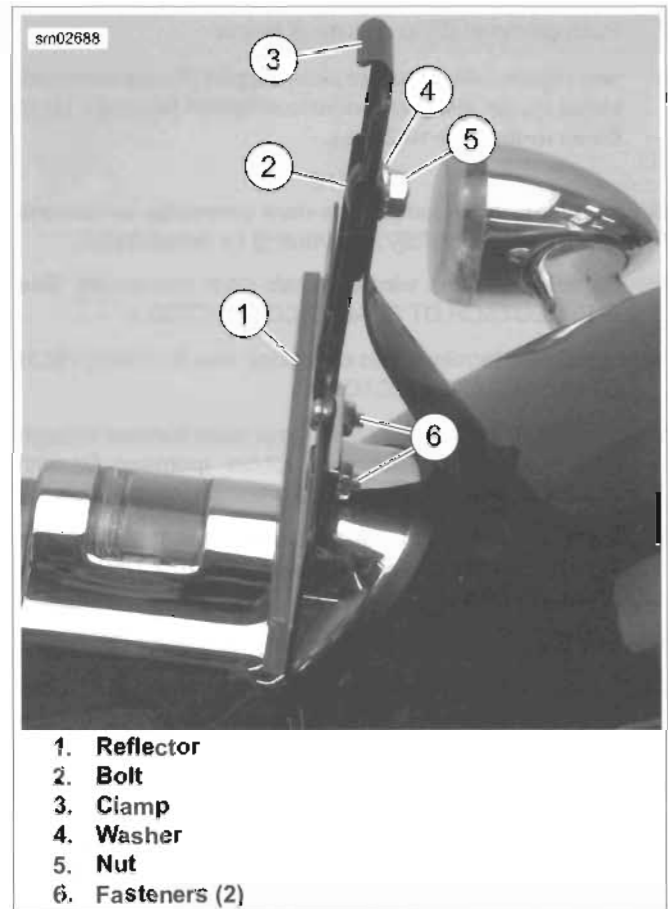

Figure 7-40. License Plate Bracket
2. See Figure 7-40. Remove reflector (1). Remove license plate bracket fasteners (6).
3. Remove bolt (2), washer (4) and nut (5) securing clamp to license plate bracket.
15. See Figure 7-40. Place license plate bracket in place on tail lamp. Install but do not tighten license plate bracket fasteners (6). Install clamp (3). Install bolt (2), washer (4) and nut (5).